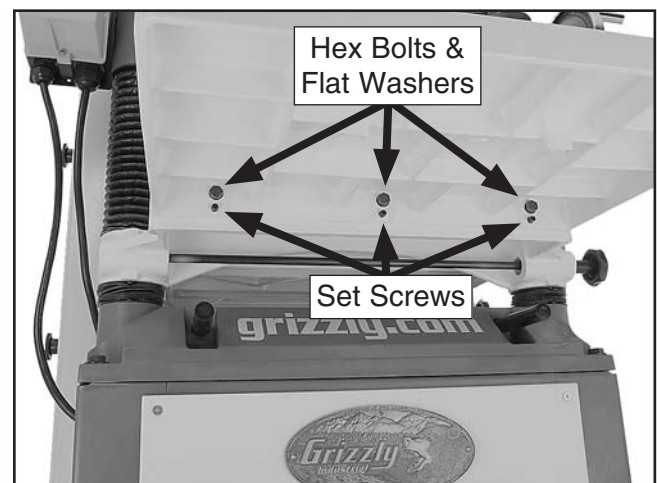

Figure 8. Front extension wing installed (Model G0454 shown).
1. Install M8-1.25 x 20 set screws in the holes in the bottom of the wings (see **Figure 8**).
2. Attach the table extension wings to the planer table with the M8-1.25 x 30 hex bolts, 8mm lock washers, and 8mm flat washers, as shown in **Figure 8**, but do not fully tighten the bolts at this time.